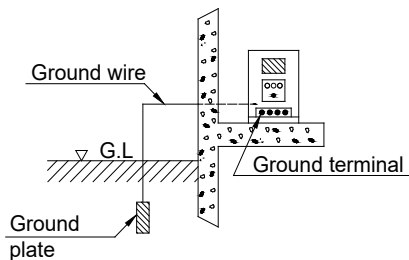

Fig. 11
4.2 Grounding (Fig. 11 and Table 3)